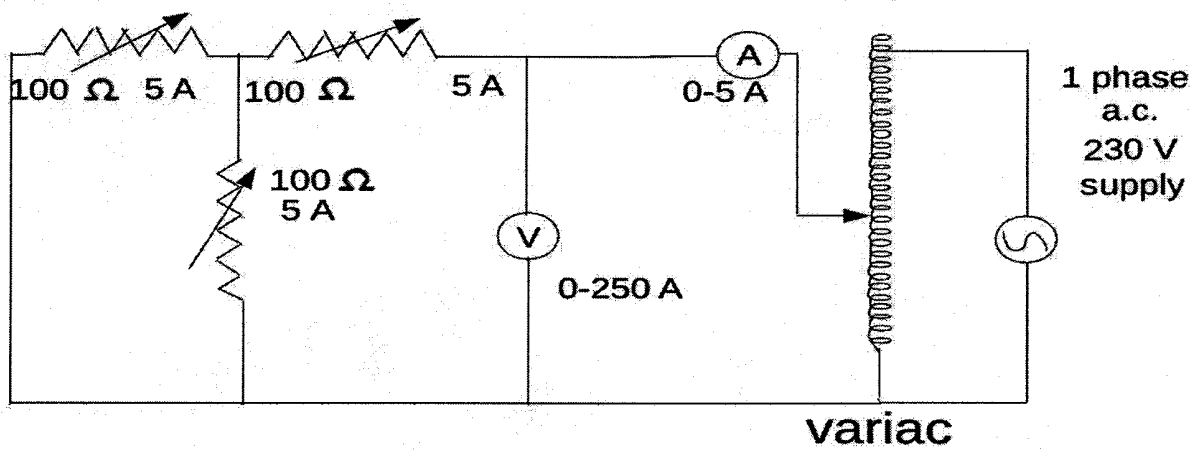

Fig. 2.
4. Next connect the circuit as shown in fig.2 below and note the readings of voltmeter and ammeter. (*This will help to calculate R_{th} .*).